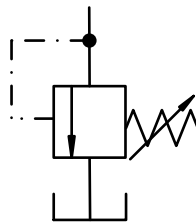

FIG 2.
C. The symbol for a pressure relief valve is shown in Fig 2.